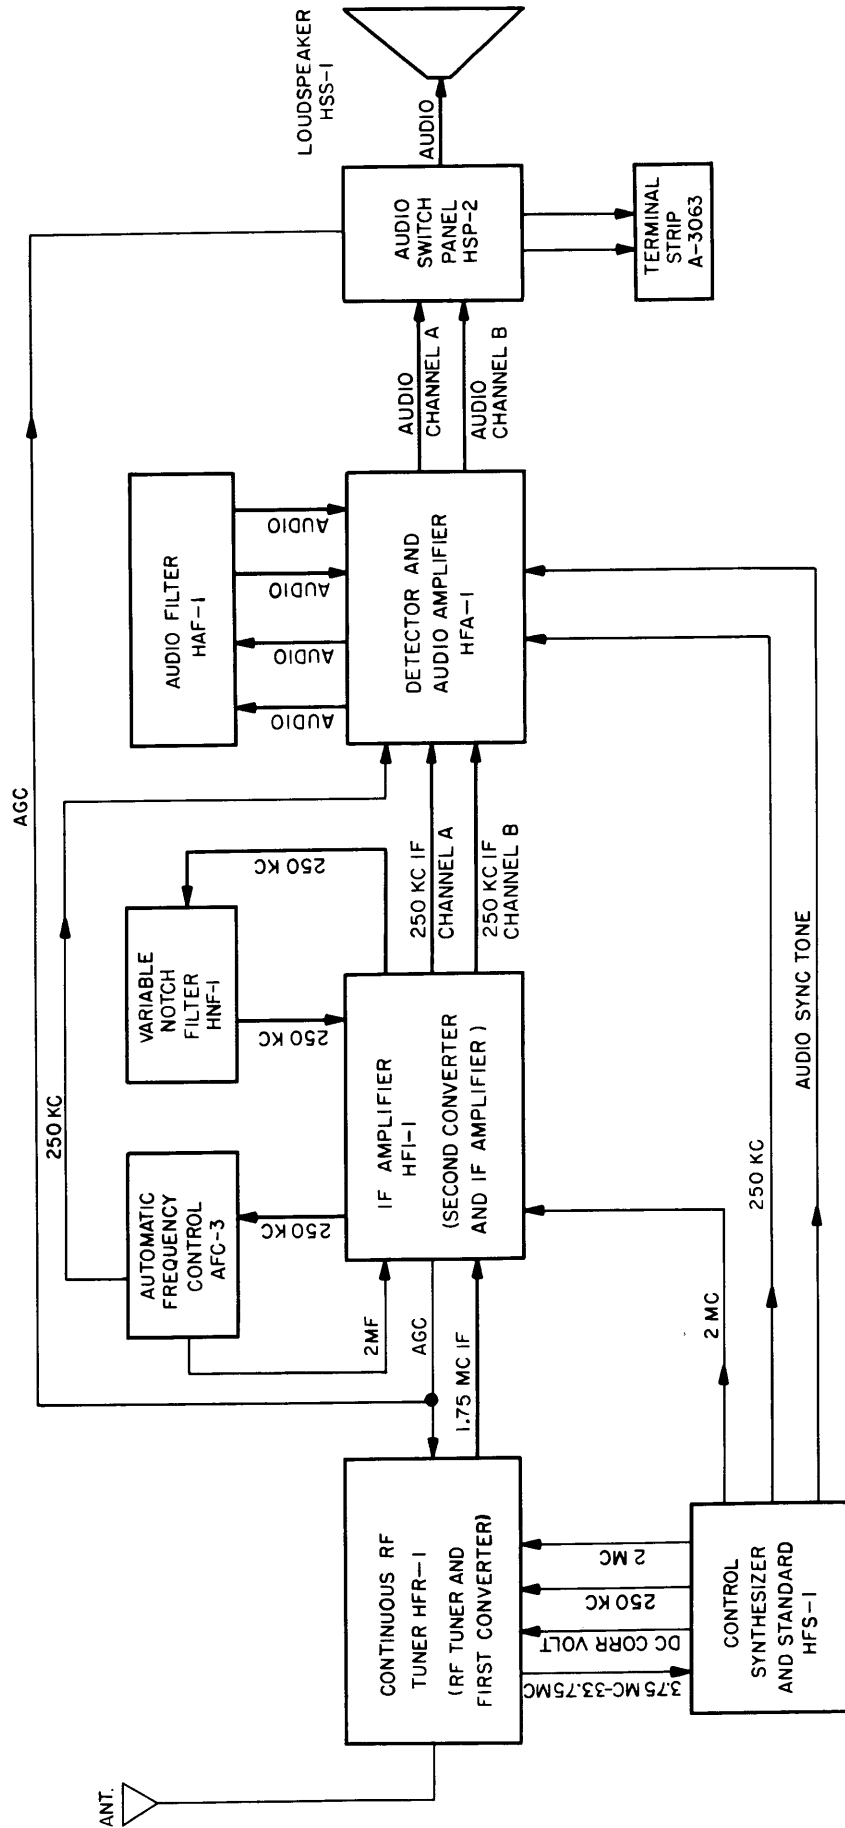

Figure 4-1. Simplified Block Diagram, DDR-5B
b. FUNCTIONAL ANALYSIS, SYNTHESIZED OPERATION. - Refer to figure 4-1.
(1) RF AMPLIFICATION AND FIRST CONVERSION. - R-f signals from the antenna are applied to Continuous RF Tuner HFR-1. Within the HFR-1, a selected frequency in the range of 2 mc to 32 mc undergoes four stages of amplification and is beat with a high frequency oscillator (HFO) output signal of 3.75 mc to 33.75 mc to produce a first i-f of 1.75 mc. Noise silencer stages employed in the HFR-1 eliminate impulse noise from the 1.75 mc output signal. The 1.75 mc i-f signal from Continuous RF Tuner HFR-1 is applied to IF Amplifier HFI-1.